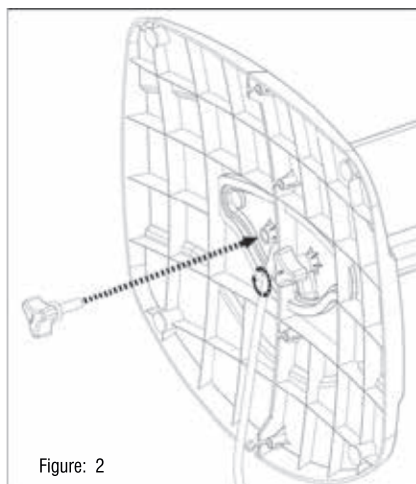

Figure: 2
- Assemble the main body and base by using the “Base Screws”. Tighten the base and body firmly by screwing clockwise as indicated on figure 2. Make sure that assembly is correct and heater is well balanced on the base.